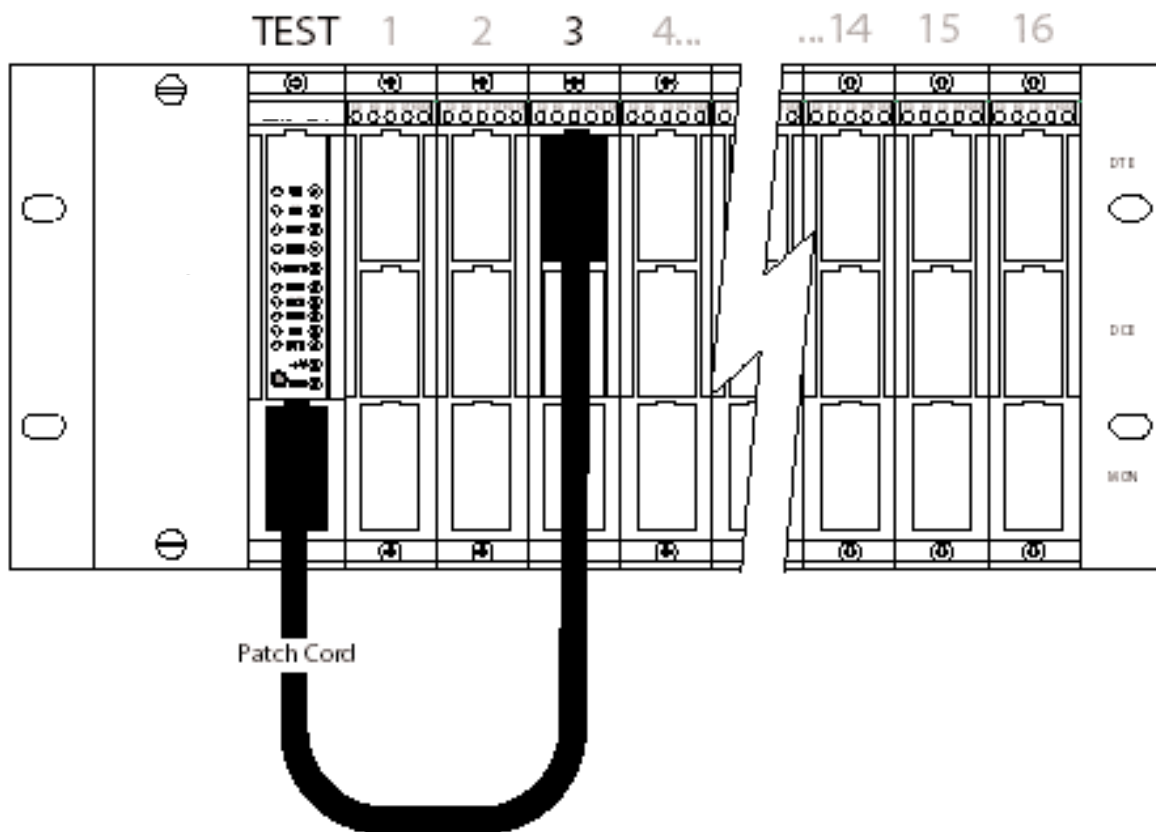

Figure 6-5. Test patch-cord connection.
2. Connect the opposite end of the same test patch cord to test module's MON patch cavity (see Figure 6-5).